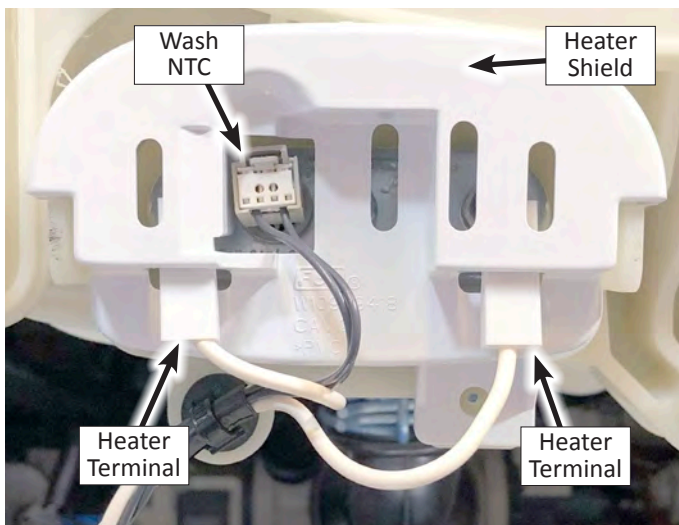

Figure 1
5. Remove the connector from the Wash NTC and the two wire terminals from the Wash Heater (see Figure 1).